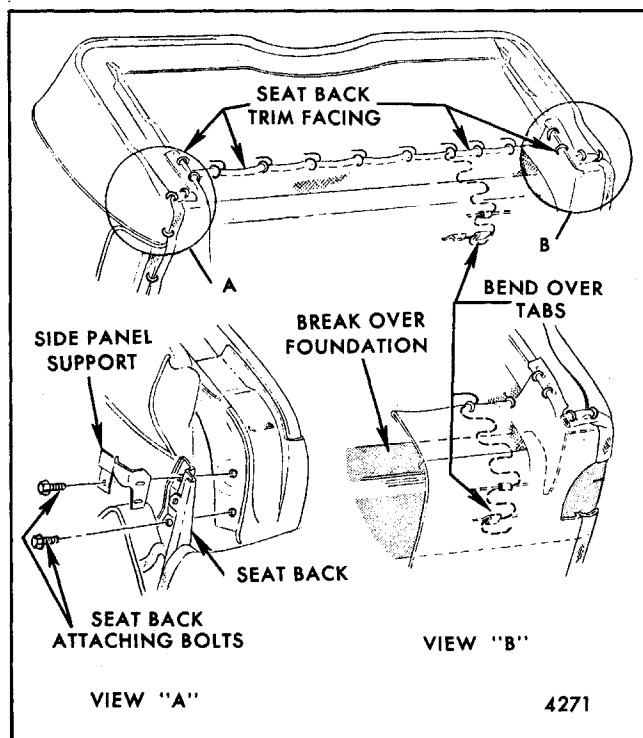

Fig. 9-62-Front Seat Back Attachment - X Four-Door Styles with Full Width Conventional Seat
Removal and Installation (Refer to Fig. 9-62)
- a. On four-door style with full width seat (no center armrest), raise lower edge of seat back trim, detach breakover foundation, bend out tabs on seat back frame securing seat cushion springs and disengage springs from tabs (see Figure 9-62).
back trim to seat bottom frame. Turn up seat back trim side facings sufficiently to expose and remove bolts securing seat back frame to seat cushion frame; then disengage and remove seat back from seat cushion (see Fig. 9-62).